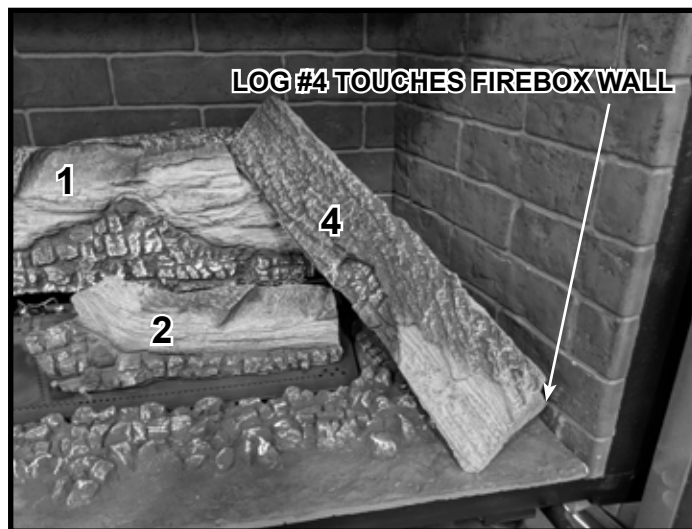

Figure 7 Place Log #4
**Log #4:** Place the top end of Log #4 on the notch located on Log #1 as shown in Figure 3. The bottom end of Log # 4 should touch the right firebox wall as shown in Figure 7.